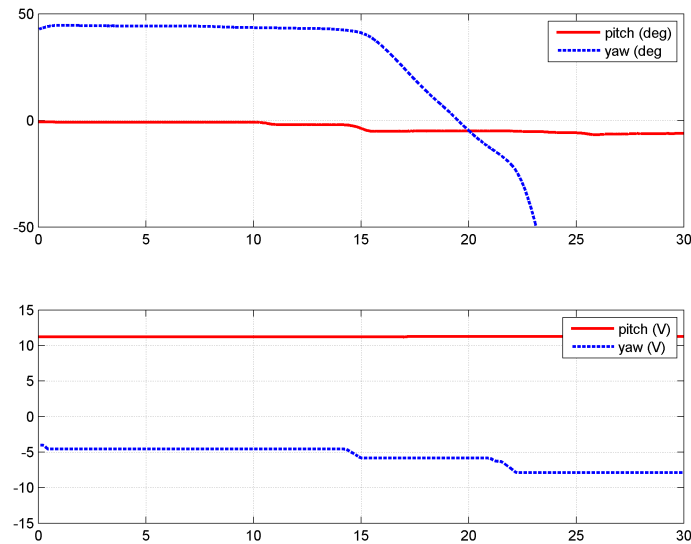

Figure 5.18: Effect of yaw on pitch
17. As depicted in Figure 5.18, applying a negative voltage to the yaw motor causes the pitch angle to decrease, i.e. the helicopter nose goes down. Similarly to the effect the pitch motor has on the yaw motion, the voltage applied to the yaw motor generates a torque on the pitch axis